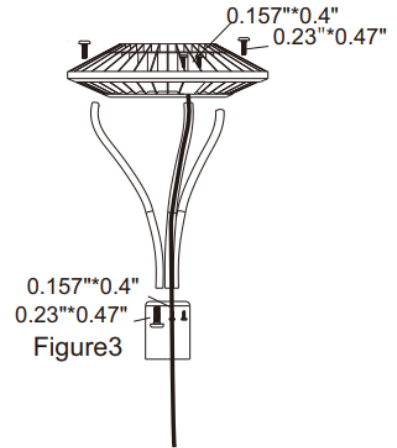

Figure 3
3. Twist the corresponding screw into the corresponding lever arm and tighten it. [Figure 3]